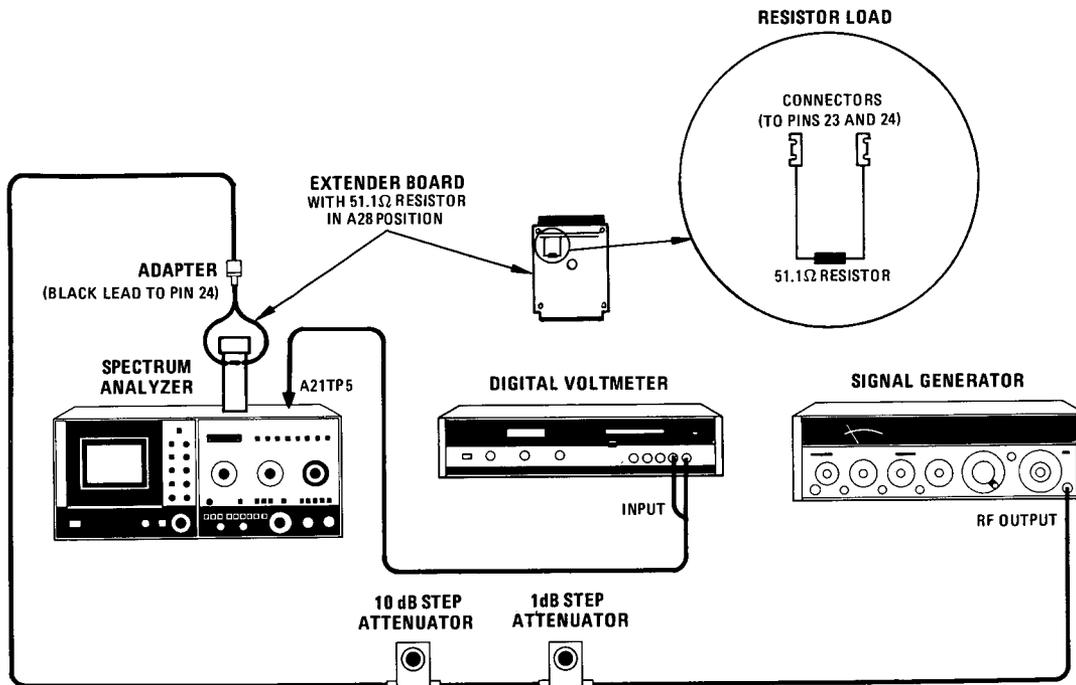

Figure 5-24. Step Gain Adjustment Test Setup
- b. Install 51.1 ohm resistor between pins 23 and 24 on extender board (Figure 5-24). Remove A28 Variable Gain Amplifier and install extender board in its place (do not install A28 on extender board).
- c. Reconnect power cord, set LINE switch ON, connect equipment as shown in Figure 5-24, and set 8565A controls as follows: